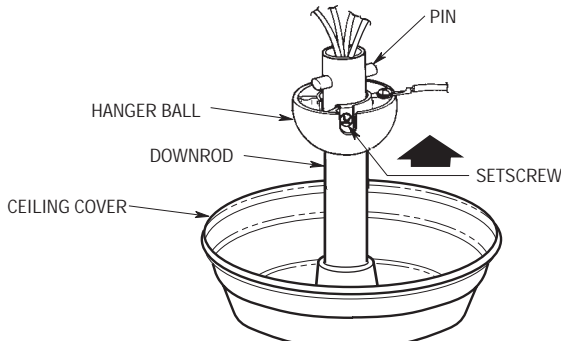

Figure 7
10. Position the ceiling cover over the downrod. Be sure the cover is oriented correctly, with the large opening at the top (Figure 7).
- 11. Reinstall the hanger ball on the downrod as follows. Route the motor leads through the hanger ball and slide the hanger ball over the downrod (Figure 7). Install the pin through the holes at the top of the downrod and slide the hanger ball up the downrod, aligning the ball so the pin is captured in the groove in the top of the hanger ball. Pull the hanger ball up tight against the pin and securely tighten the setscrew in the hanger ball. A loose setscrew could create fan wobble.